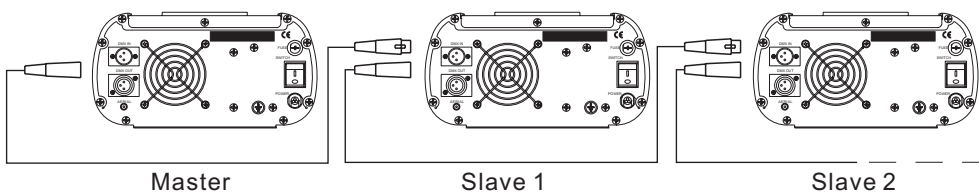

Fig.4
4.The connection of Master/Slave Control Mode(See Fig. 4):